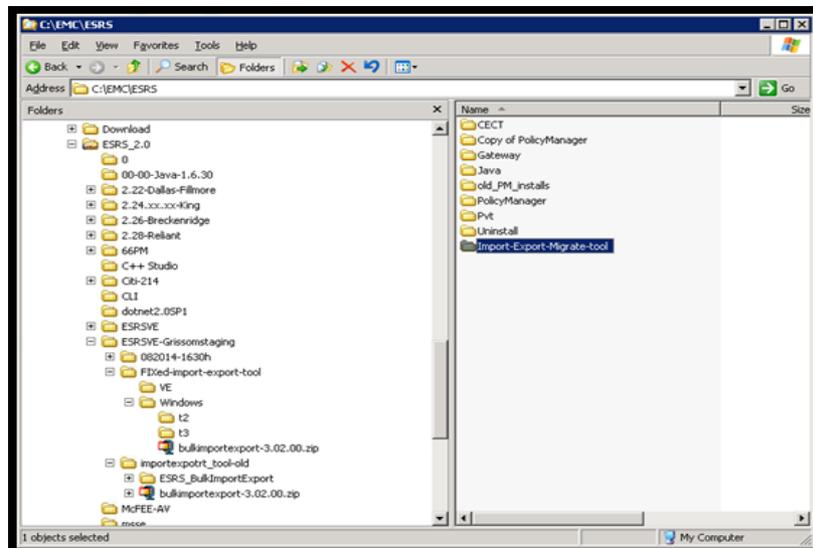

Figure 106 Creating a directory
- Create a directory for the tool, as shown in Figure 106 on page 95.